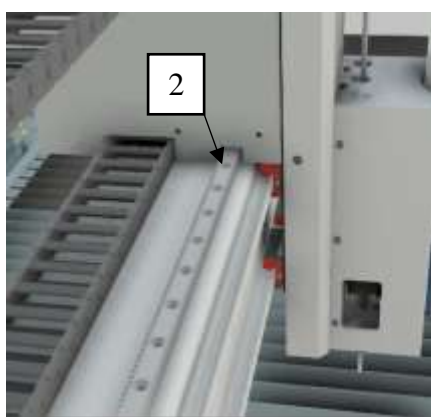

Fig.57: Y-axis
4. Grease the rack (Fig. 57 /2) of the Y-axis with a light machine grease using a lint free cloth.